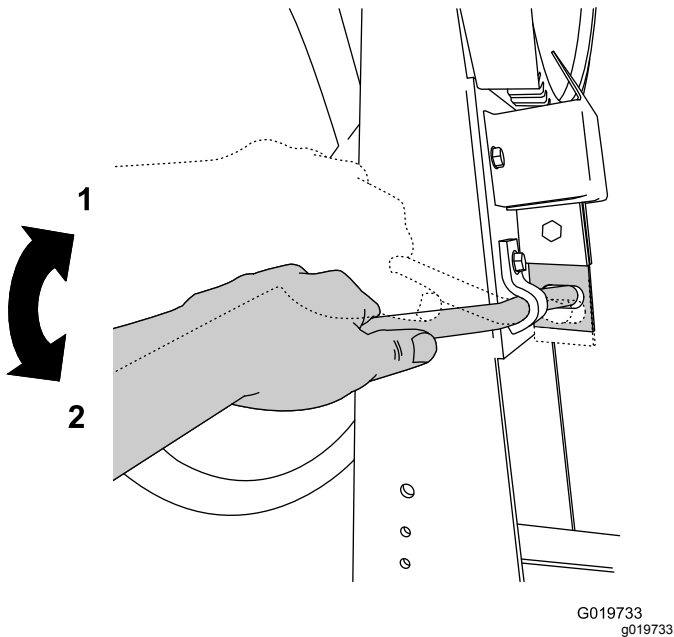

Figure 17
4. Lock the drum into position by pushing down the drum-tilt-brake handle (Figure 17).